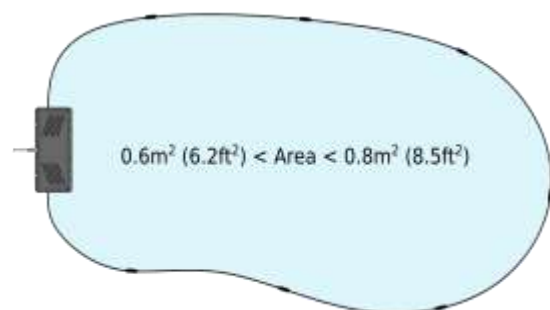

Figure 3: Loop Antenna
- Operation with Loop Antenna arranged in an arbitrary shape as long as its enclosed area is between approximately 0.6m^2 (6.2ft^2) and 0.8m^2 (8.5ft^2) – as shown in *Figure 3*. (If the Magnetic Loop Antenna dimensions exceed the upper or lower limits of this range, or if the Magnetic Loop Antenna is perturbed by conducting or magnetic materials in its